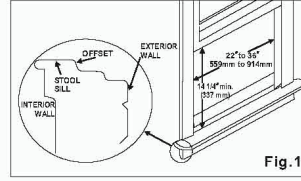

Fig.1
Your air conditioner is designed to install in standard double hung windows with opening widths of 22 to 36 inches(559mm to 914mm) (See Fig.1).
A. Hold the Accordion Panel in one hand and gently pull back the center to free the open end. See Fig. 1.